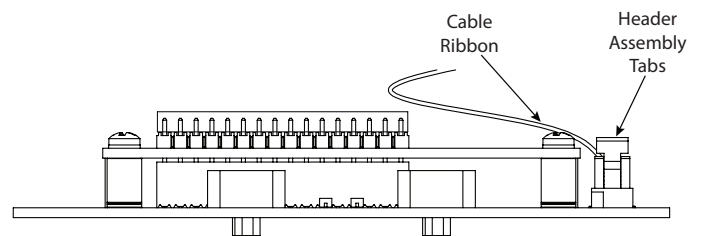

Figure 22: Release cable ribbon
5. Open the tabs on the header assembly to release the cable ribbon connector. See *Figure 22*.